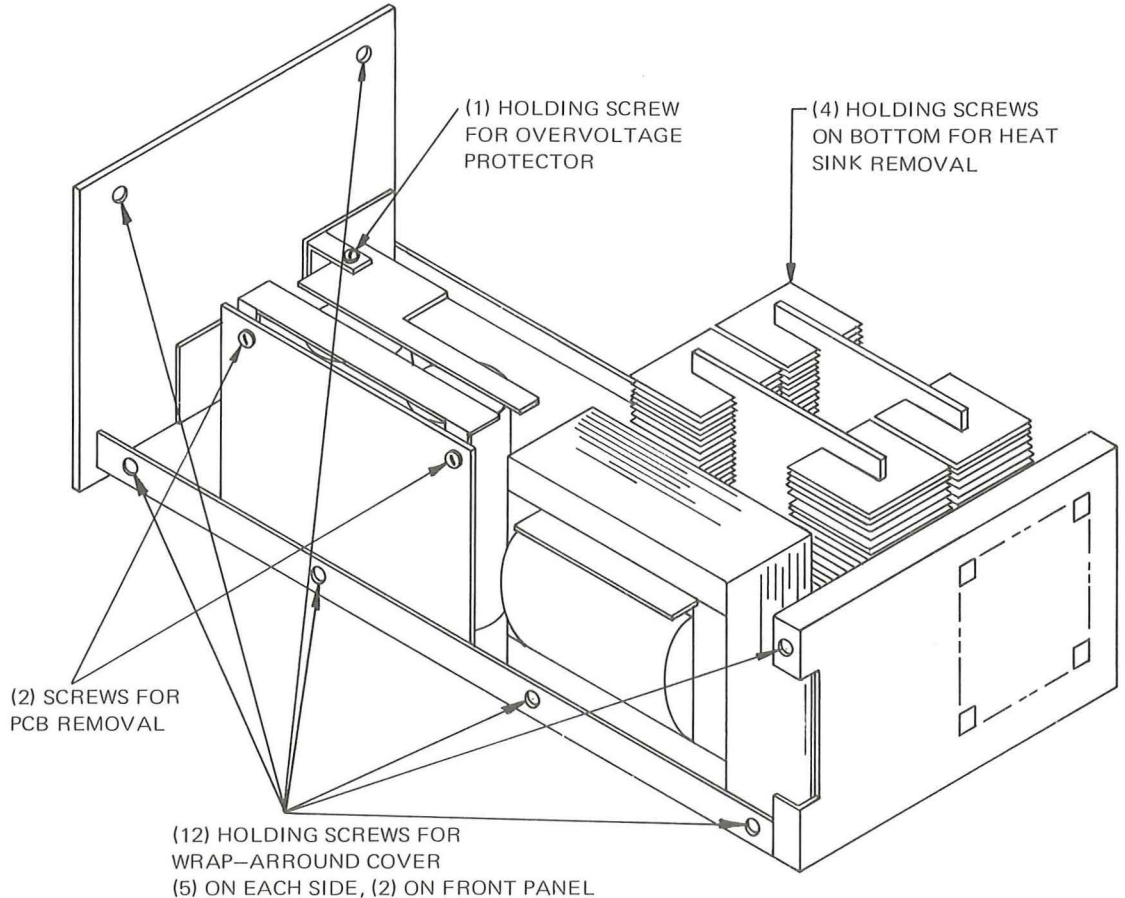

FIG. 5-1 DISASSEMBLY, JQE HALF-RACK MODELS
5-3 DISASSEMBLY (Refer to FIG. 5-1)
- a) COVER REMOVAL. The wrap-around cover may be taken off by loosening and removing its twelve (12) holding screws, five (5) on each side and two (2) on the front panel.
- b) CIRCUIT BOARD REMOVAL. The printed circuit board is mounted with two (2) screws, which are removed from the side. After removal of the four printed circuit board connectors, the board may be lifted from its slide-guide.
- c) HEAT SINK REMOVAL. The heat sink assembly is mounted with four (4) screws to the chassis bottom. After the screws are taken out, the wires may be removed by means of the "quick disconnect" terminals.
- d) OVERVOLTAGE PROTECTOR (A4) REMOVAL. (On Models with Suffix—"VP" only). Remove the holding screw as indicated (Refer to FIG. 5-1) and lift assembly out.